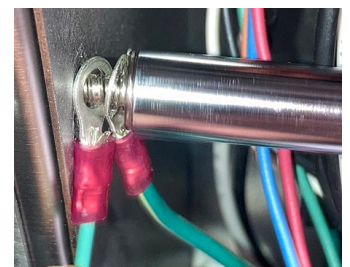

Figure 38
- u. Attach the ground wire from the harness in step e to the side of the control cabinet (see Figure 38).